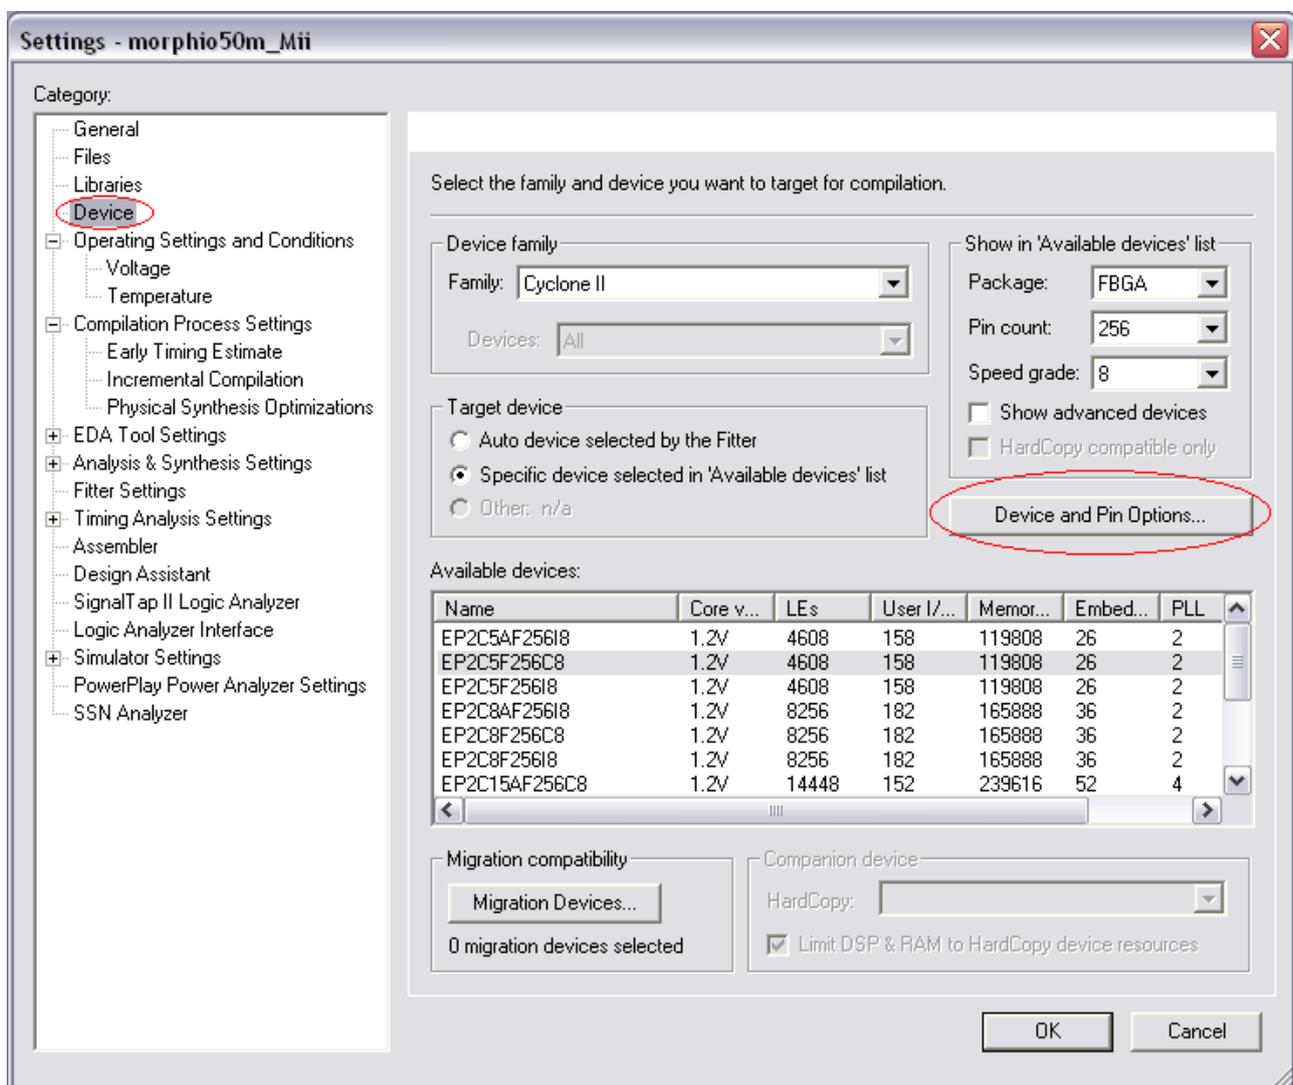
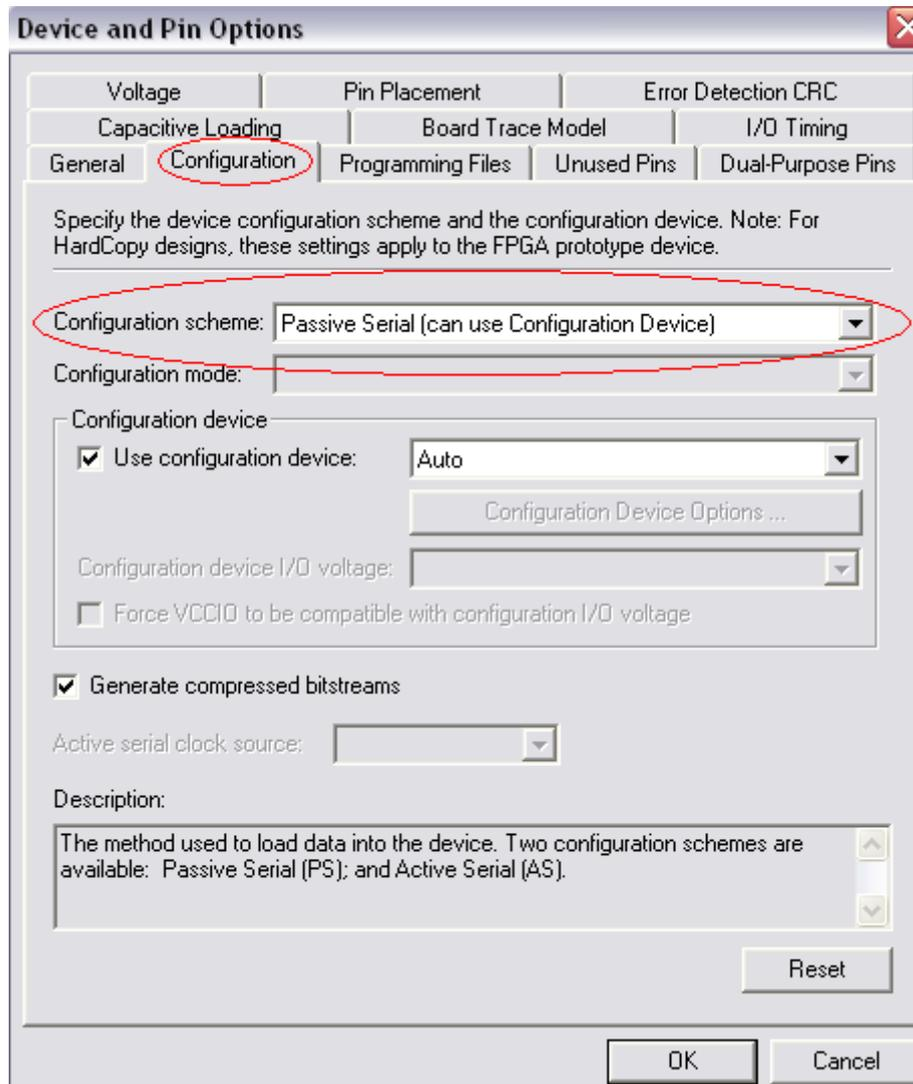

Fig. 7 – Device and Pin Options
Fig. 8 – FPGA Configuration
Step 2: When “create a new project” is selected the screenshot shown in Fig 7 will be displayed.
This is done by opening the project settings window by clicking on Assignments -> Settings and opening the *Devices* tab. The window shown in Fig 7 will be displayed.
Click on the *Device and Pin Options...* button highlighted in Fig. 7. This will open the Device and Pin options menus as shown in Fig 8. In this menu, modify the configuration scheme to *Passive Serial* mode as shown in Fig. 8.